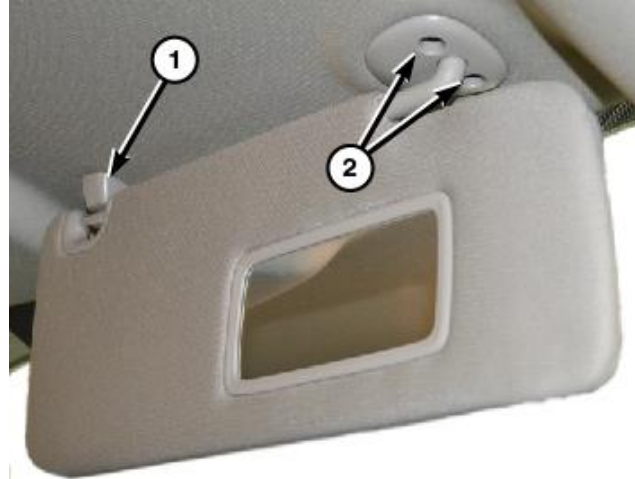

Figure 47 – Visors
17. Separate the visor from the support (1) then remove the screw and remove the visor support (Figure 47).
18. Remove the visor screws (2) then remove the visor (Figure 47).
40. Position the visor supports (1) onto the headliner and install the screws into the mounting clips (Figure 47).
42. Position the visor to the headliner and install the screws (2) that secure the visor to the roof panel. Tighten the screws to 6 N·m (53 in. lbs.) (Figure 47).